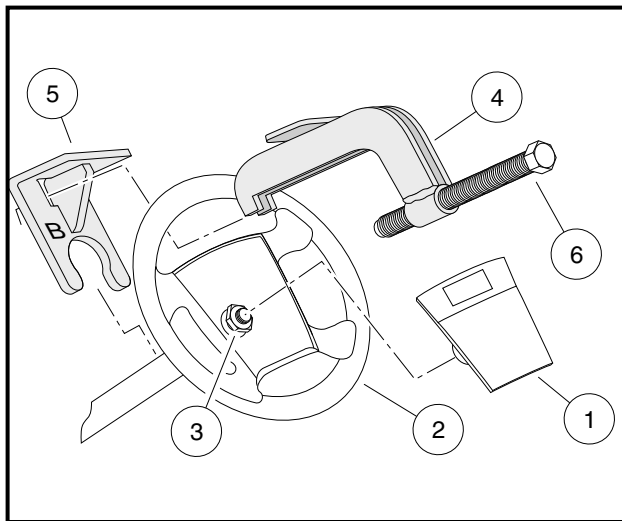

Figure 7-1 Steering Wheel Puller
- 5.1. Place the puller anvil (4) through the top opening of the steering wheel (**Figure 7-1, Page 7-3**).
- 5.2. Insert the anvil feet through the two slots in the base plate (marked "B") (5) as shown (**Figure 7-1, Page 7-3**).